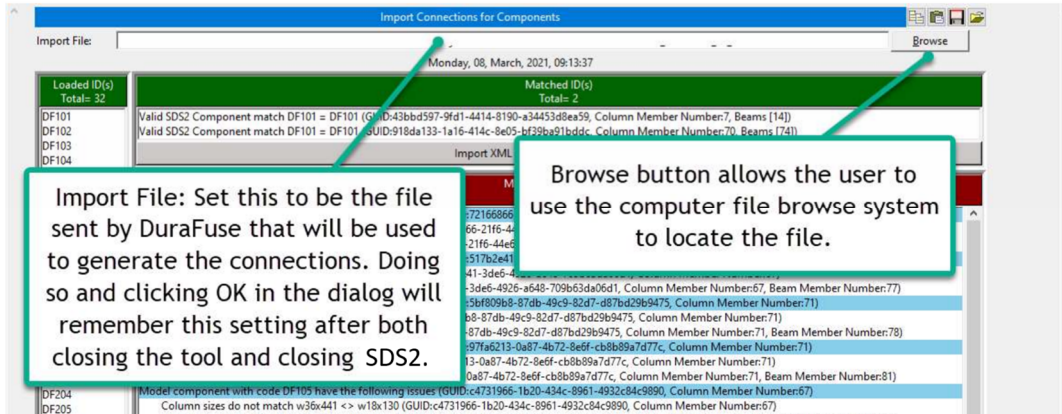

Figure 5-1. Locate and Import XML Data
2. After selecting the XML tool, the main dialog will pop up. **Browse** to the saved XML file as shown in Figure 5-1.